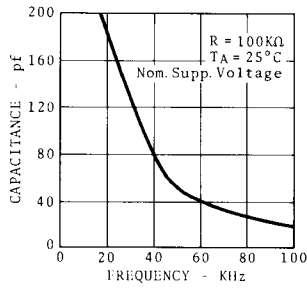

Fig.6
** R2(100K Ω), C2(50pF) provide 50KHz clock frequency (see figure 6)